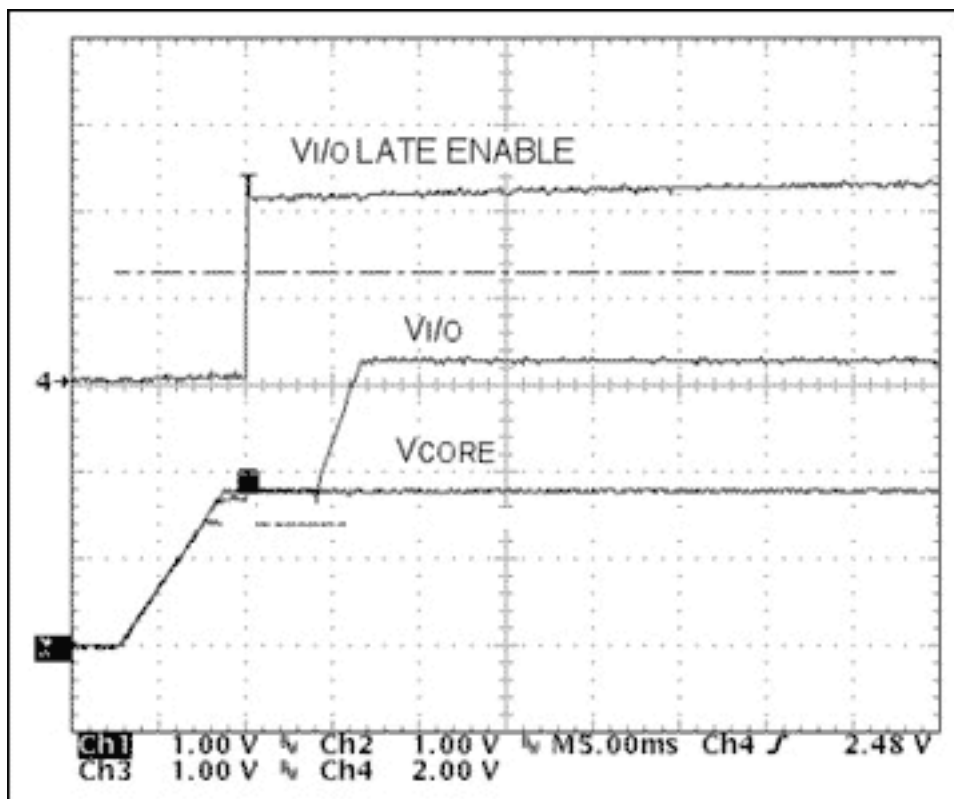

Figure 5. Startup Operation,  $V_{CORE}$  Enable Precedes  $V_{I/O}$  Enable.
5.  $V_{I/O}$  precedes  $V_{CORE}$ , and begins to rise at a rate determined by the I/O regulator characteristics. NOTE: Neither  $V_{I/O}$  nor  $V_{CORE}$  should rise at a rate exceeding  $6.6V/\mu s$ .  $V_{CORE}$  rises with  $V_{I/O}$  because the two regulator output lines are connected via the MOSFET. During this phase, the I/O regulator output supplies both the I/O and CORE loads and backdrives the CORE regulator output; both voltages are equal. [If  $V_{CORE}$  precedes  $V_{I/O}$ ,  $V_{CORE}$  backdrives the  $V_{I/O}$  supply; both voltages are equal. Refer to Figure 5.]